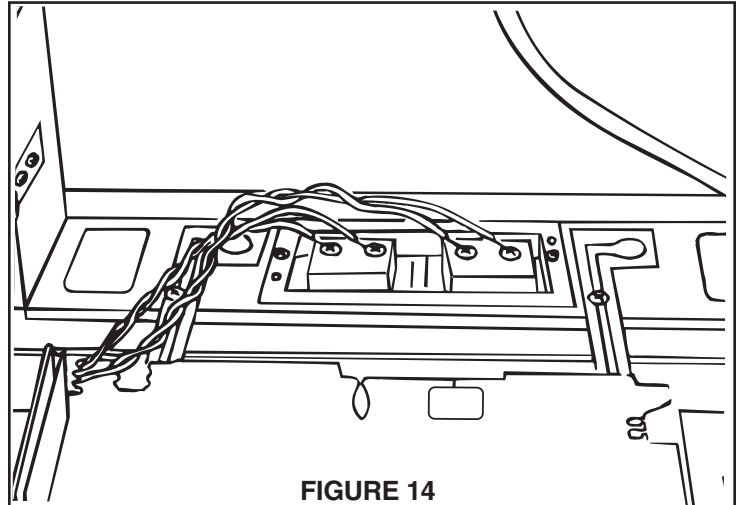

FIGURE 14
1. Refer to Figure 14. The transformers' primary leads should already be connected to the 120 volt AC house supply wiring. Be sure power is off before connecting transformers to master unit.